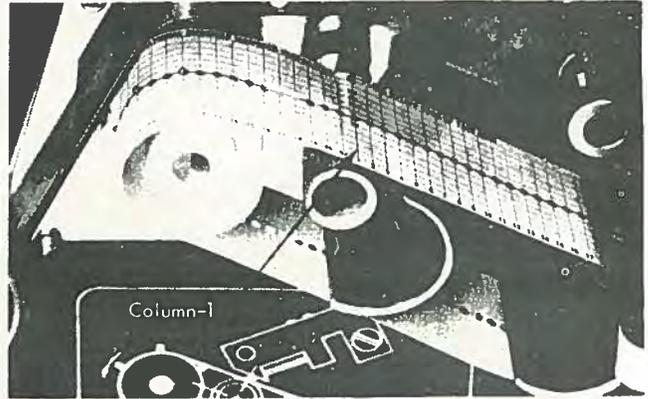

Figure 3-61. Program Tape with Column One Properly Aligned (Brushes Raised)
8. Carefully slide the tape onto the tape drive feed pins, and at the same time position the right-hand loop of the tape around the tape tensioner (Figure 3-61).
9. Check that column 1 of the tape is still at the top of the contact roll as indicated by the decal (see Figure 3-61).